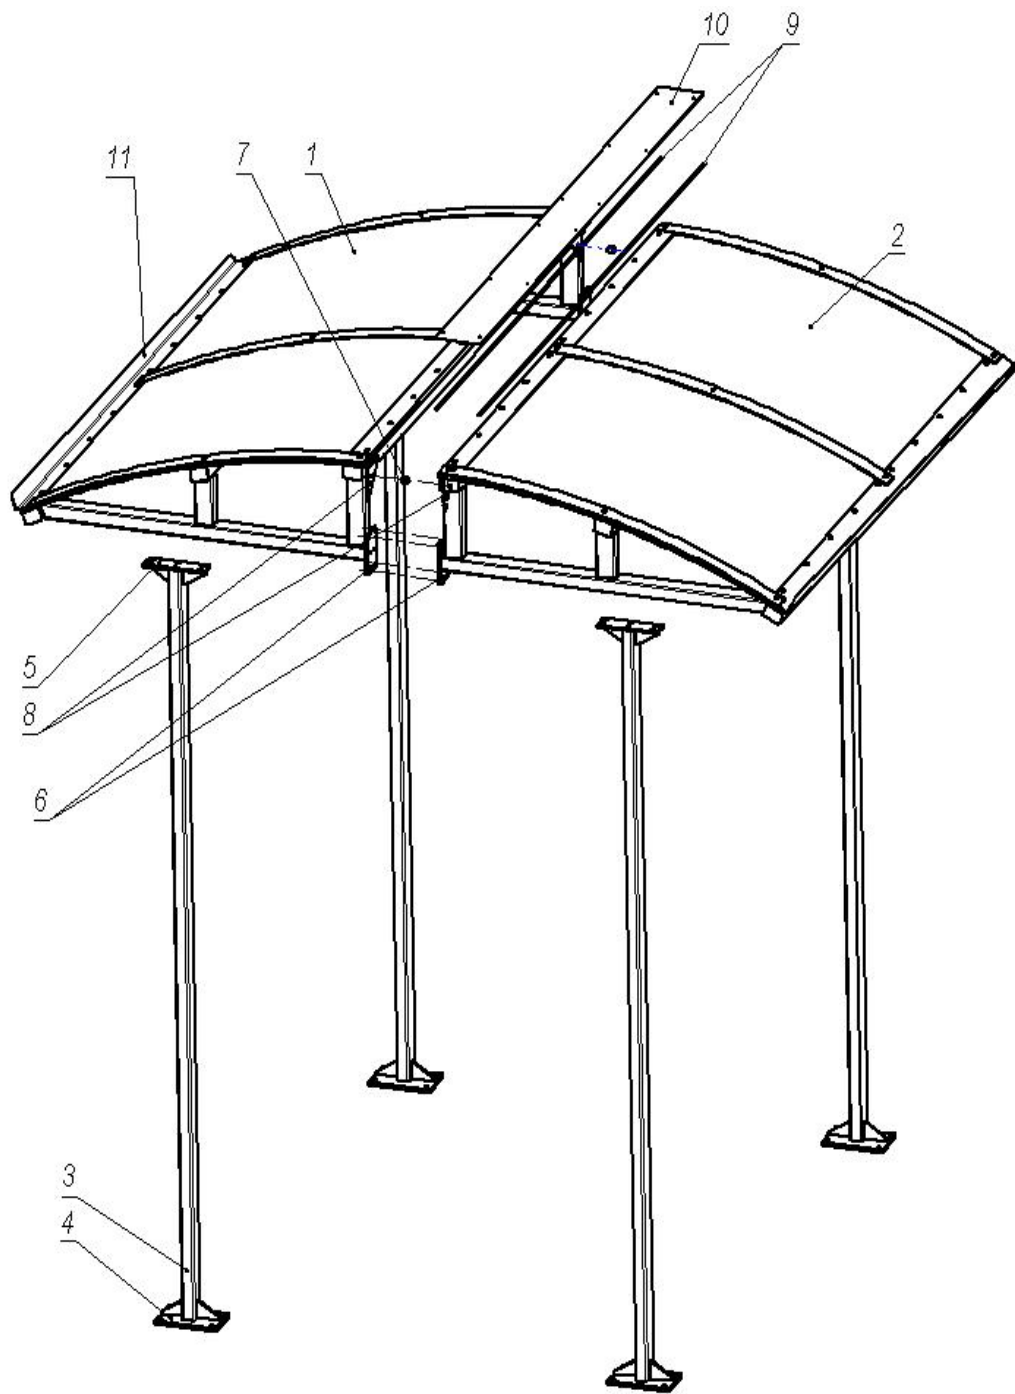
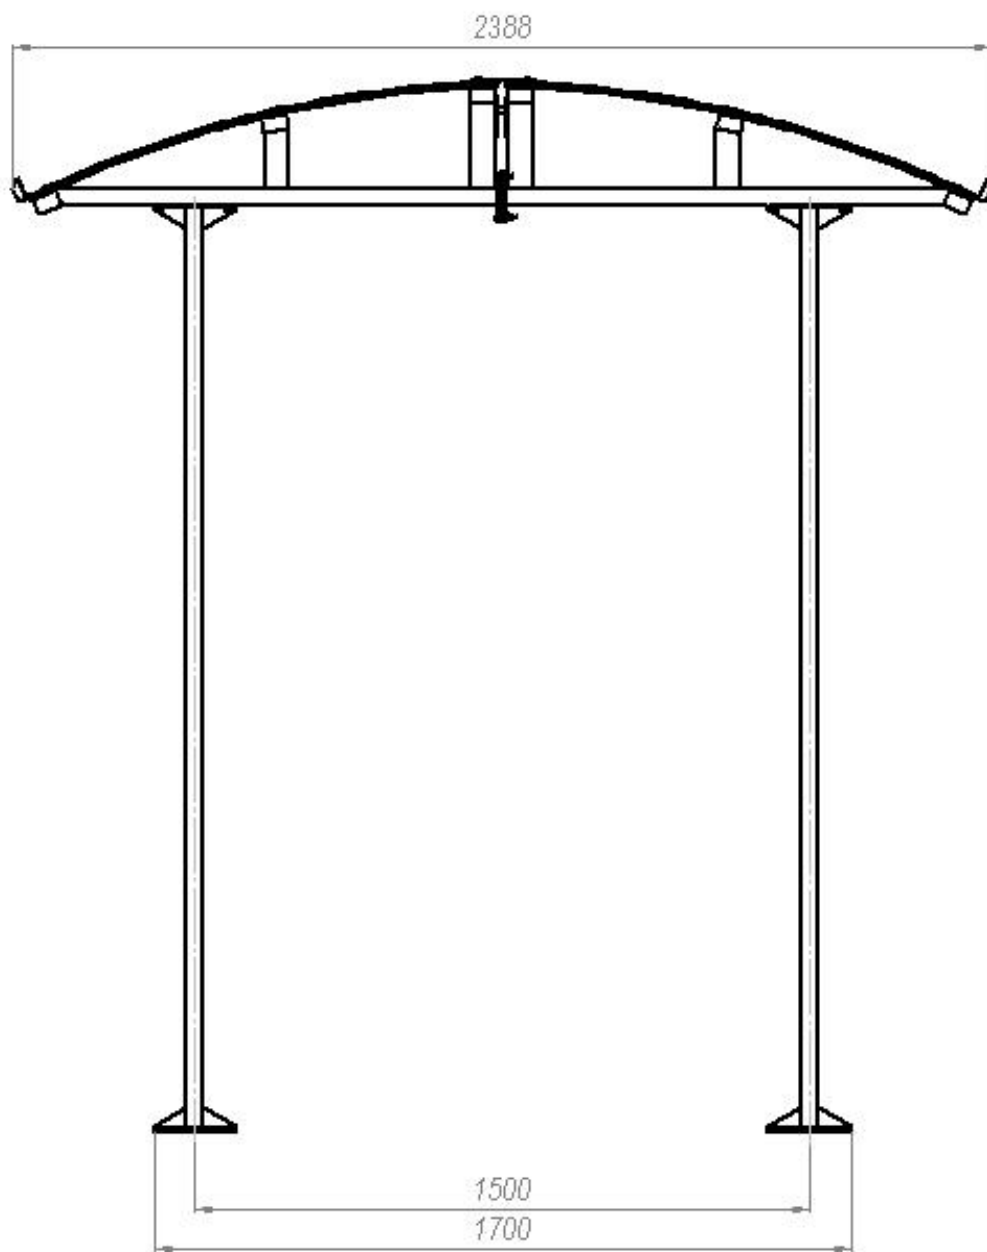

Fig. 1. The canopy design:
Fig. 2a. Overall canopy dimensions (frontal view)
5.2.1 The design is shown in Fig. 1. Overall dimensions of the canopy are given in Fig. 2a and 2b.
Numbers of the position correspond to Fig.1.